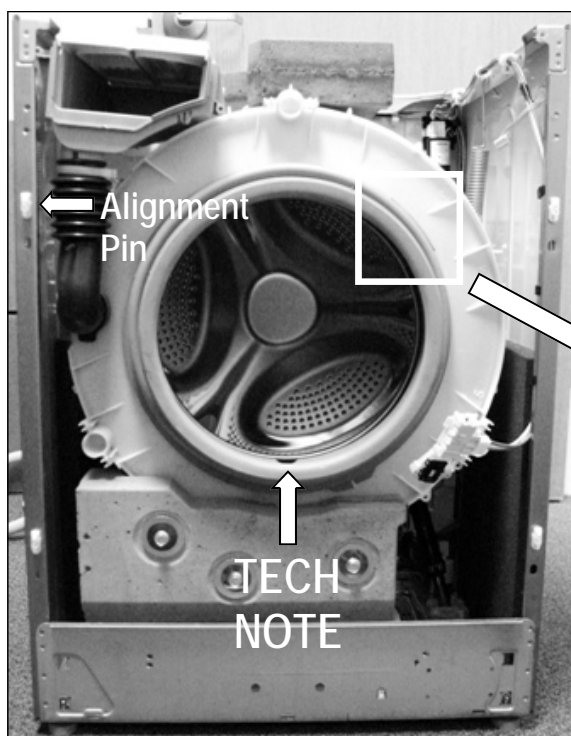
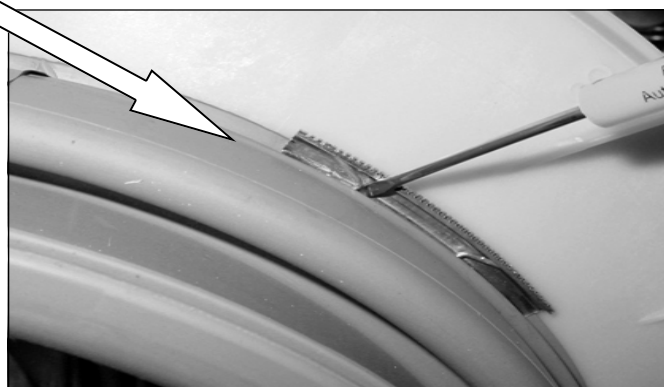

Fig. 6-4
Fig. 6-5
- Remove the lower Toe Kick and then the two bottom Phillips screws (Fig. 6-3). The Front Panel can be lifted up and off from the four panel alignment pins (Fig. 6-4).
- The Drum Boot is held to the Drum with a reusable Zip Retainer Clamp (Fig. 6-4). Remove the Inner Drum Clamp by pushing down on one of the clamp spring arms (Fig. 6-5).
**TECH NOTE:** When installing the Boot make sure to align the drip edge at the 6 O'clock position (see Note in Fig. 6-4).